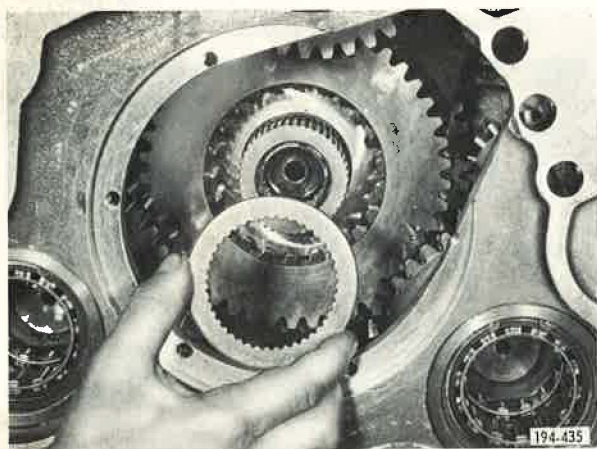

Figure 63. Installing Lo-Range Gear Front Thrust Washer
9. Through rear case front opening, install Lo-range gear (Lo-Lo range for TRXL-1071) front thrust washer and retain with Lo-range gear retaining snap ring. See Figures 63 and 64.